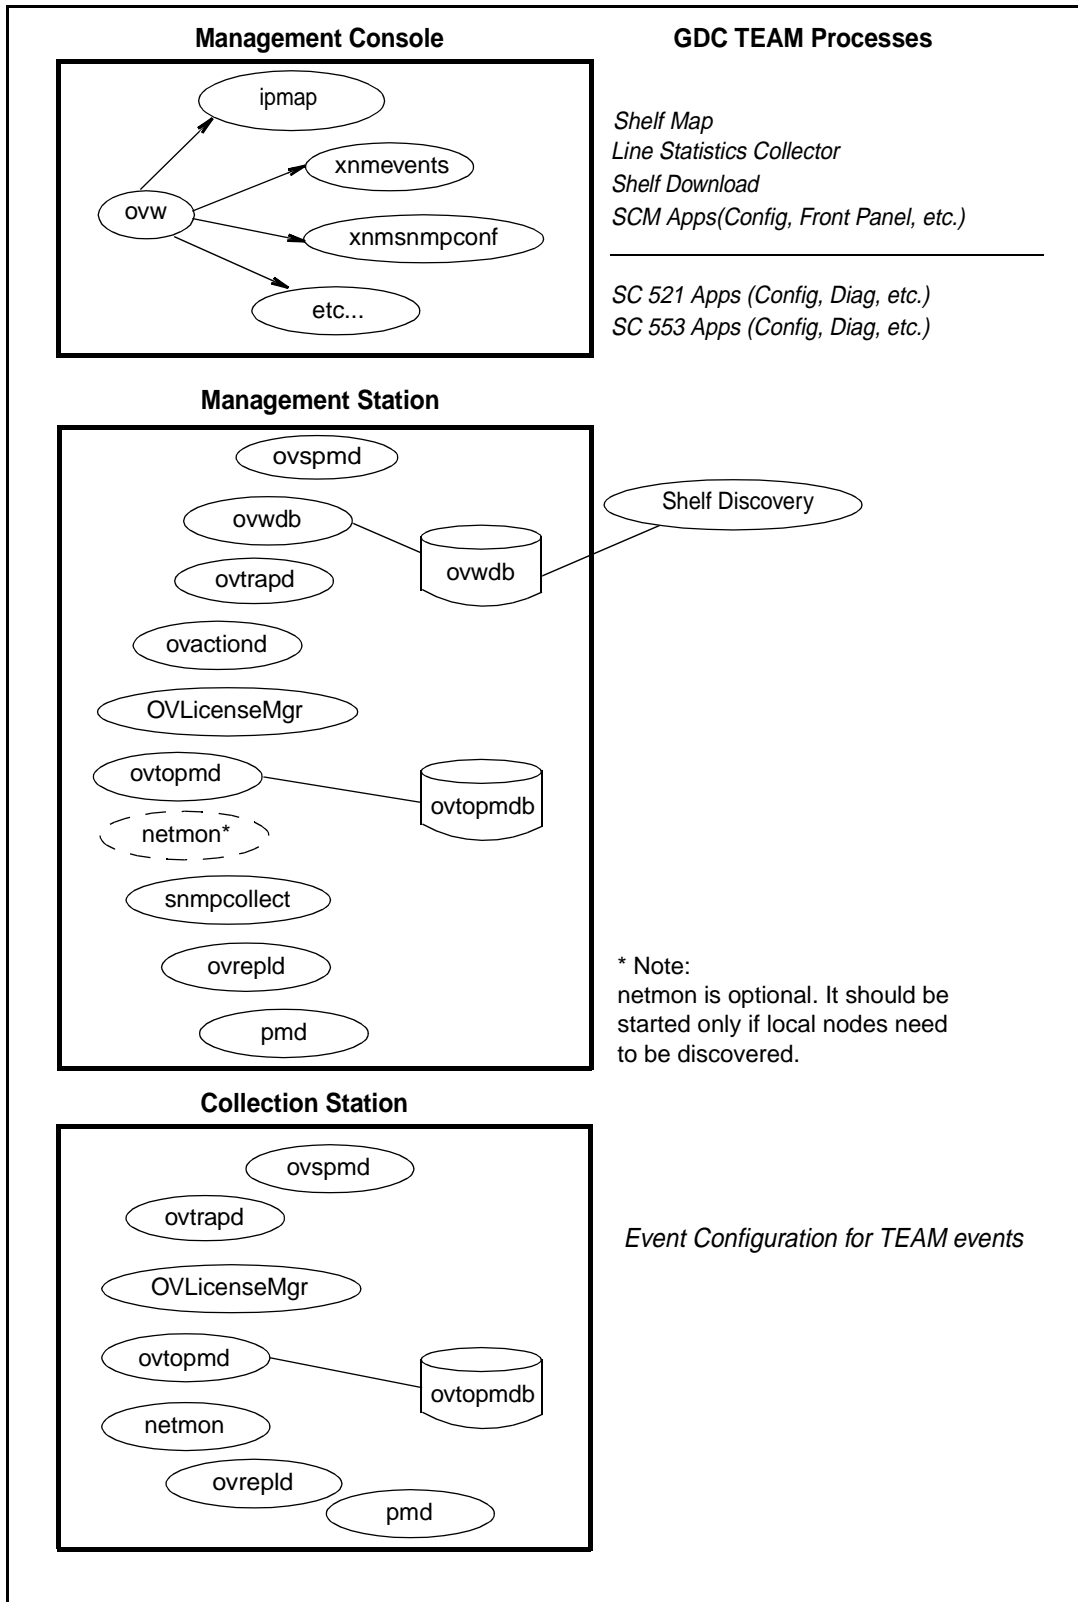

Figure 2: HP OpenView and Team Processes and Applications
- Figure 2 demonstrates the HP OpenView and TEAM processes and applications that run on the collection station, the management station, and the management console.
Once TEAM software is installed and configured in an HP OpenView NNM distributed environment, the system is ready for network management of GDC devices. This begins with the discovery of a GDC device on the management console where it is managed. Some of the typical applications that are executed on the management console are shown in Figure 2. The sequence of events that occur end-to-end is as follows: